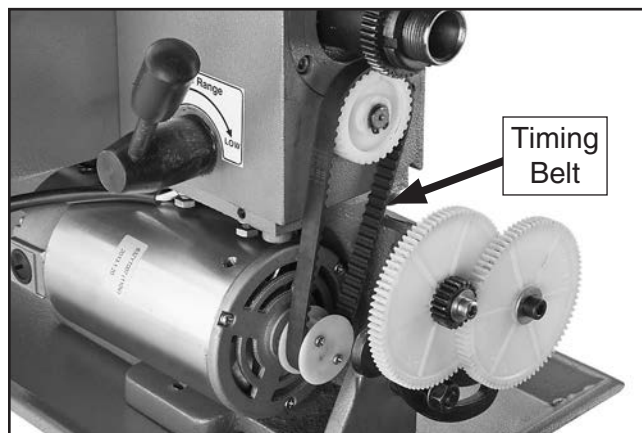

Figure 93. Timing belt installed.
7. Slide off old timing belt and install the new one, making sure that belt teeth are seated together with pulley teeth (see **Figure 93**).